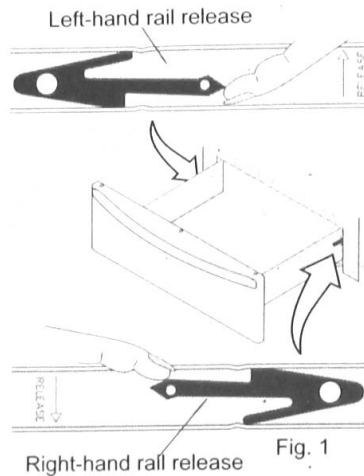

Fig. 1
- Locate glide lever on each side of drawer, pull up on the left glide lever and push down on the right glide lever (See Fig. 1).